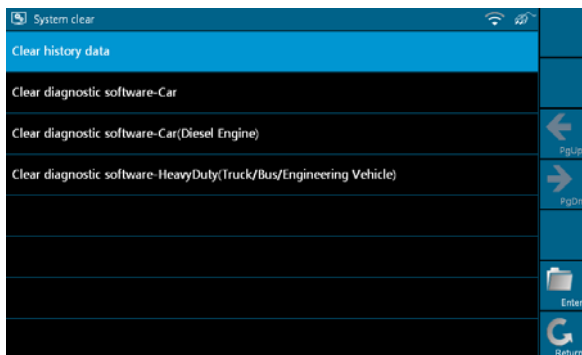
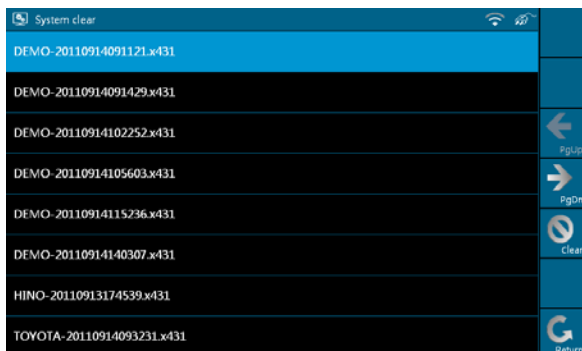

Figure 2-24
Figure 2-25
Click [Diagnostic] to enter Figure 2-24.
1. In Figure 2-24, select [Clear history data] and click [Enter] to enter Figure 2-25. Select one item that you want to clear and click [Clear].
Click [OK] in the dialog box shown as Figure 2-25, and the item will be cleared successfully.
2. On figure 2-24, select [Clear diagnosis software-Car] and click [Enter]. Select one car model that you want to clear, as shown in Figure 2-27 and click [Fast Clean].